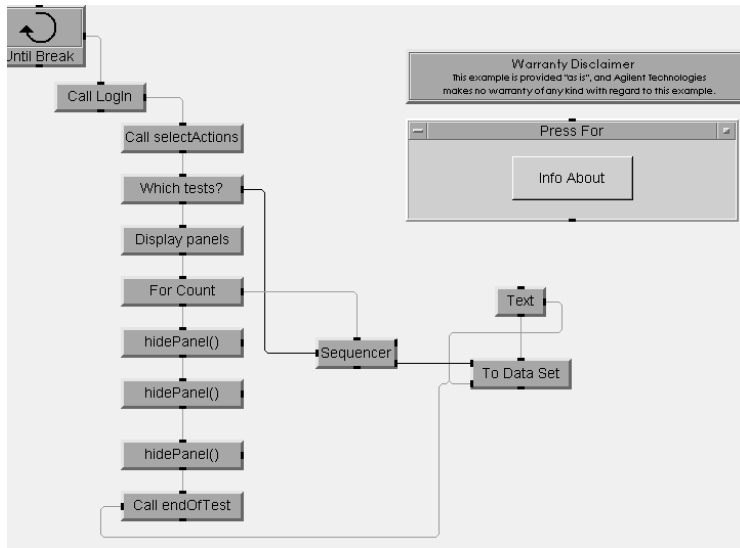

Figure 12.9. Program description for Mfgtest.vee
4. Open mfgtest.vee; change to Detail View; click on the “Info About” icon and study its contents. The program should look like Figure 12.9.